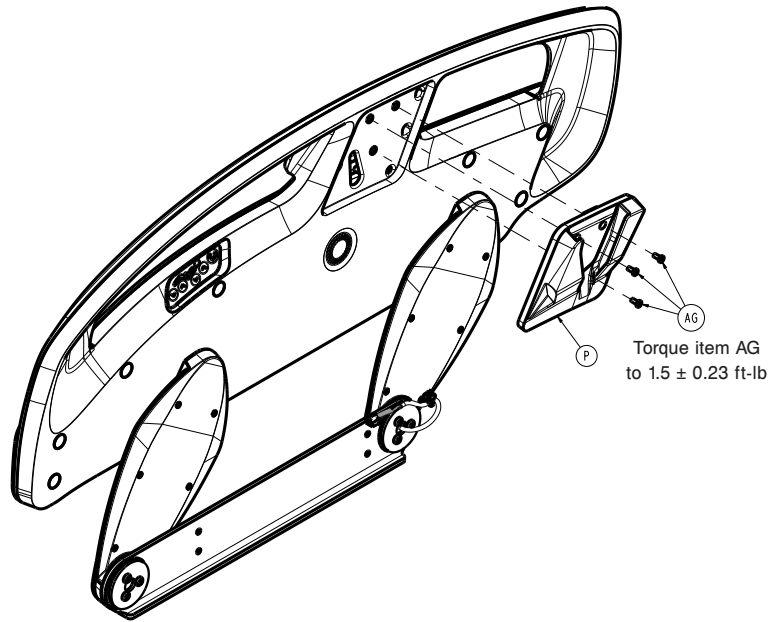

Figure 53 – Replacing the siderail control board
7. Using a pick, remove the label from the siderail in the patient belongings bracket (P) (Figure 53). Discard the label.
8. Using a 1/8" hex driver, remove the three screws (AG) that secure the patient belongings bracket (P) to the siderail hoop (Figure 53). Save the screws. Remove and save the patient belongings bracket.
- Using a pick, remove the label from the siderail in the patient belongings bracket (P) (Figure 53). Discard the label.
- Using a 1/8" hex driver, remove the three screws (AG) that secure the patient belongings bracket (P) to the siderail hoop (Figure 53). Save the screws. Remove and save the patient belongings bracket.
8. Using a 1/8" hex driver, remove the three screws (AG) that secure the patient belongings bracket (P) to the siderail hoop (Figure 53).